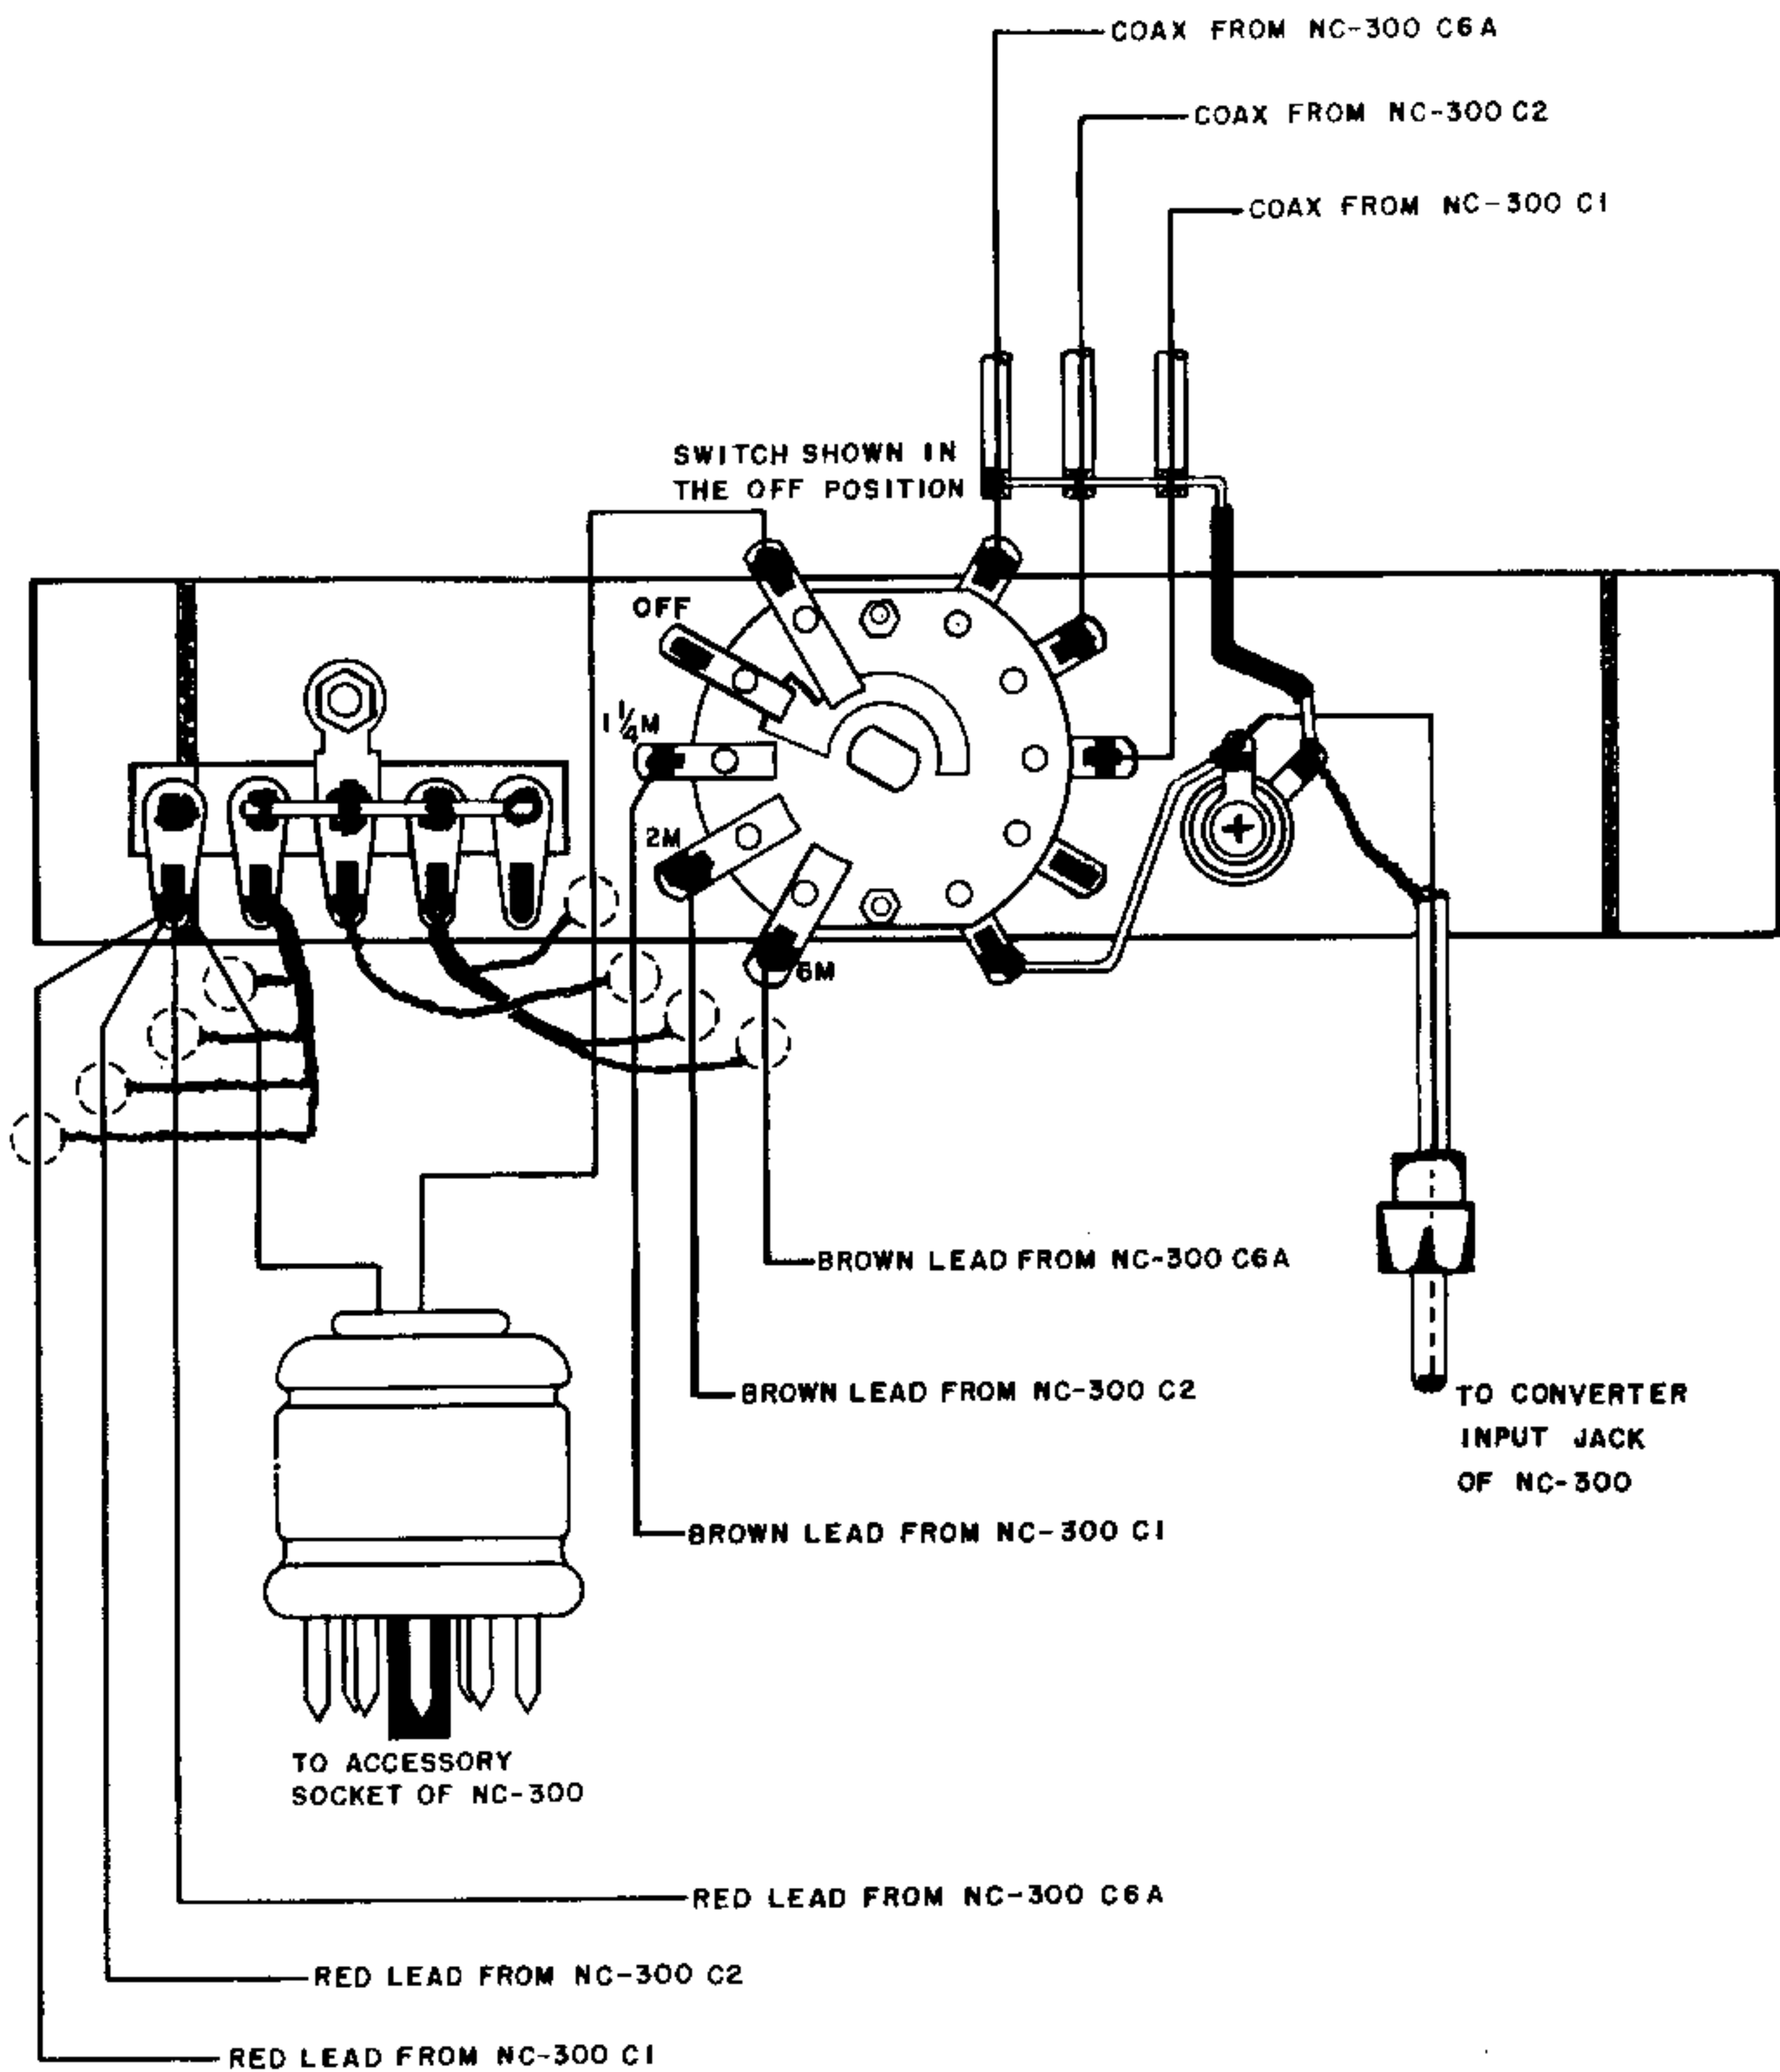

Figure 1. Converter Cabinet, Wiring Diagram
Step 9. Solder the inner conductors of the coax to the band switch as shown on Figure 1.
Step 10. Feed the power cables through the metal loop located at the underside of the cabinet top. Solder the inner conductors of the brown leads to the switch and the inner conductors of the red leads to the terminal strip as illustrated on Figure 1.
Step 11. Connect the braided shields of the power leads to the nearest ground points as illustrated on Figure 1.